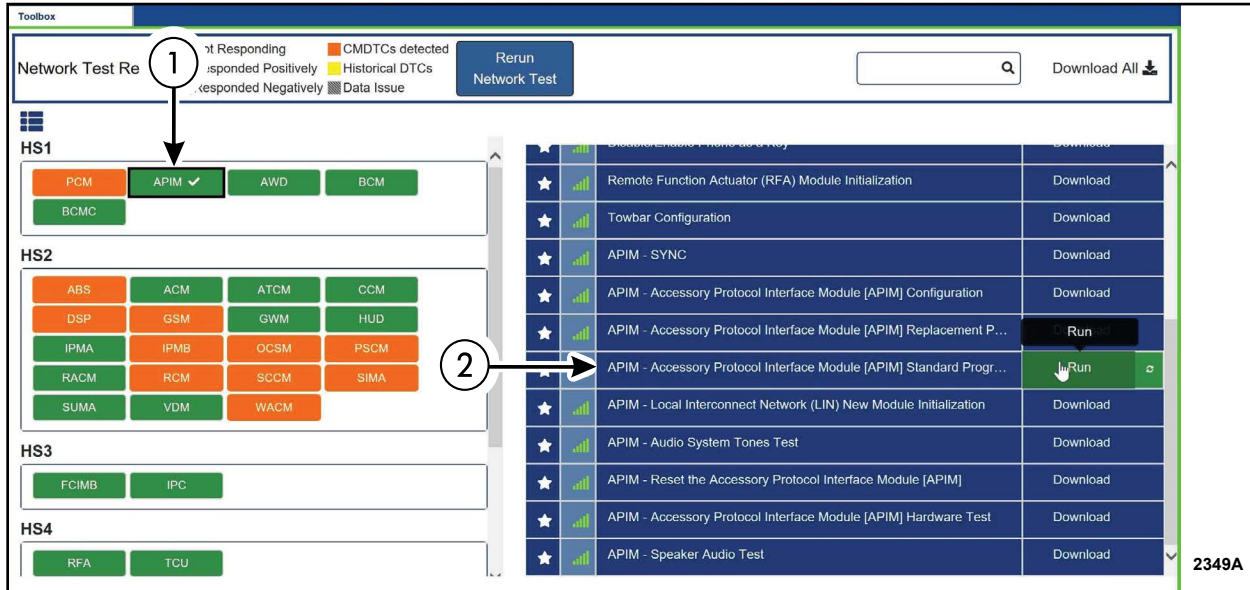

FIGURE 1
- From the list on the LH side of the screen, select the **APIM**. See Figure 1.
- From the list on the RH side of the screen, **select APIM - Accessory Protocol Interface Module [APIM] Standard Programming**. See Figure 1.